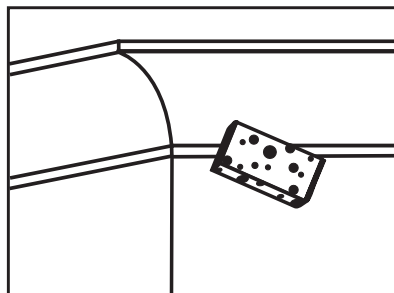

FIGURE 16 Wipe Down
- Wipe down the cornice with a wet sponge [Figure 16].